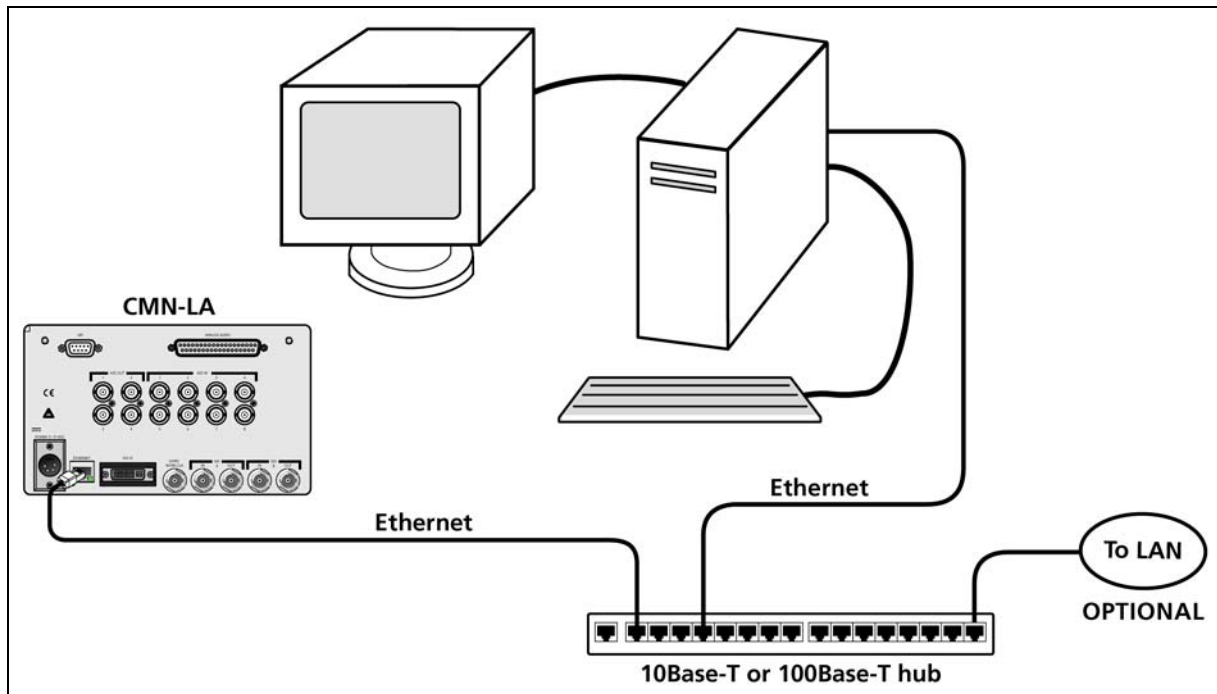

Figure 2-6 CMN-LA Network PC Connection
- For a network connection, connect the network hub to the back panel of the CMN-LA using a CAT5 network cable (not included). See Figure 2-6.